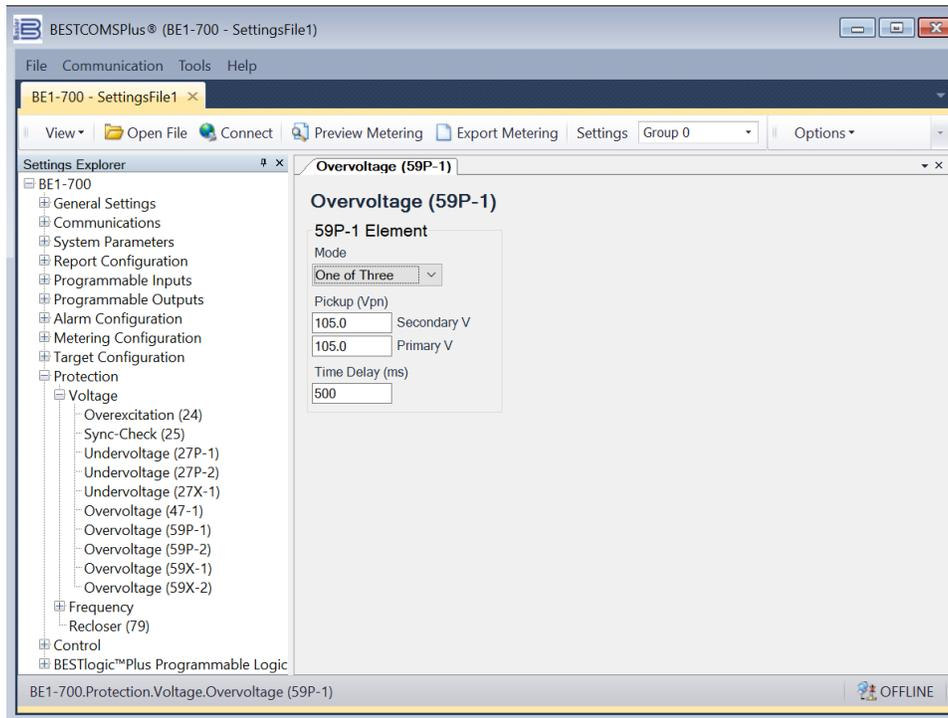

Figure 2-8. Overvoltage (59P-1) Screen
- Step 7: In the Settings Explorer, expand Protection, Voltage and select the Overvoltage (59P-1) screen. See Figure 2-8.